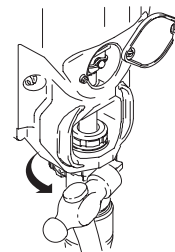

Fig. 15 9576A
6. Fig. 15. Screw jam nut (12) up onto pump until nut stops. Tighten jam nut by hand, then tap 1/8 to 1/4 turn with a 20 oz (maximum) hammer to approximately 75 ± 5 ft-lb (102 N·m).